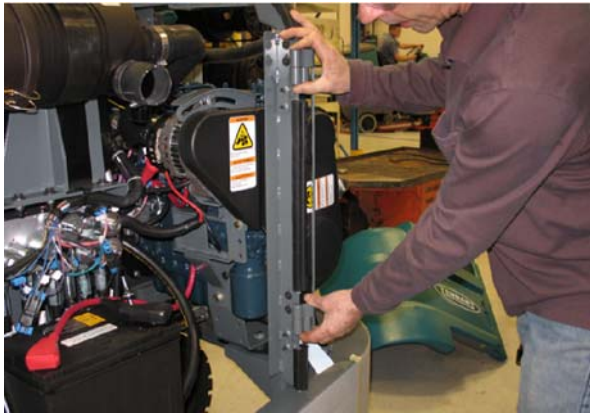

FIG. 60
75. Use the side shroud hinge (43) to set the adjustment for the side door hinges (37). Tighten the loose hardware. (Fig. 60)